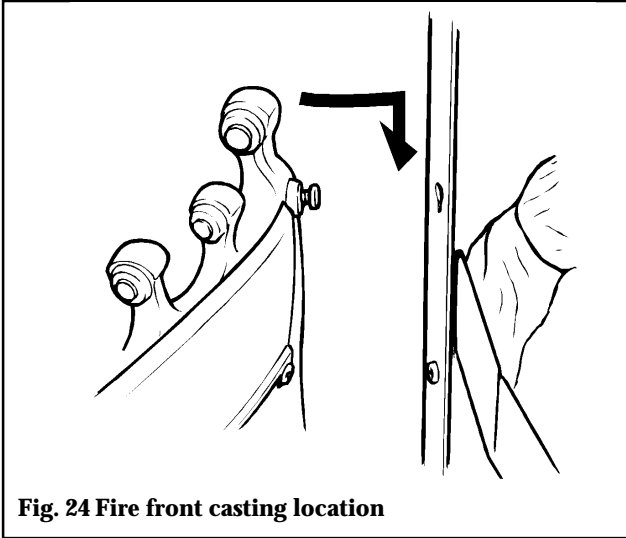

Fig. 24 Fire front casting location
11.1 All models except black & chrome front casting: Fit the fire front casting to the front surround. Locate the two screw heads at the rear top corners of the casting through the keyhole slots at the inner sides of the surround. If the screw heads do not project enough or project too far, the screws can be adjusted. Lower the casting so that it rests on the hearth (see figure 24).